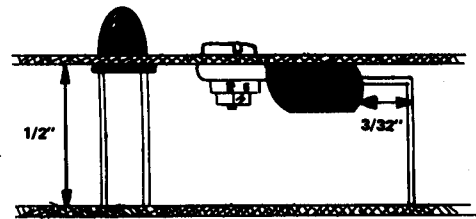

FIGURE 3 BENDING TRANSISTORS
- () Referring to Fig. 3, bend the leads of Q1R and Q1T to the dimensions shown...failure to maintain these dimensions will result in misalignment of the faceplate.
() TRANSMITTER: Connect the negative probe to the resistor lead marked TP(-) on the overlay, Fig. 3. Connect the other lead to Jumper J3 marked TPT(+). Turn the FFC on. Check that both LED's lit indicating the Fast Charge mode. If not, make sure the batteries you are using are discharged below the cutoff level. If so, there is a problem...turn the unit off and refer to the Troubleshooting section. Now set the trim pot VR1T until the meter reads exactly 0.241 volts. A higher reading